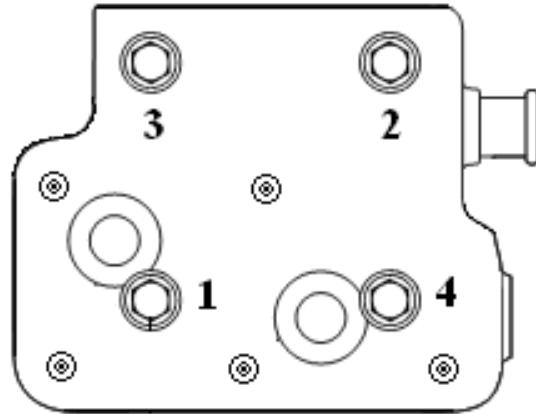

Figure 4
4. Tighten in sequence 1-2-3-4 (Figure 4) to 18.5 to ± 2.5 lb-ft. Then apply $90^\circ \pm 15^\circ \pm 5^\circ$ rotation. Use angular gauge to check rotation.